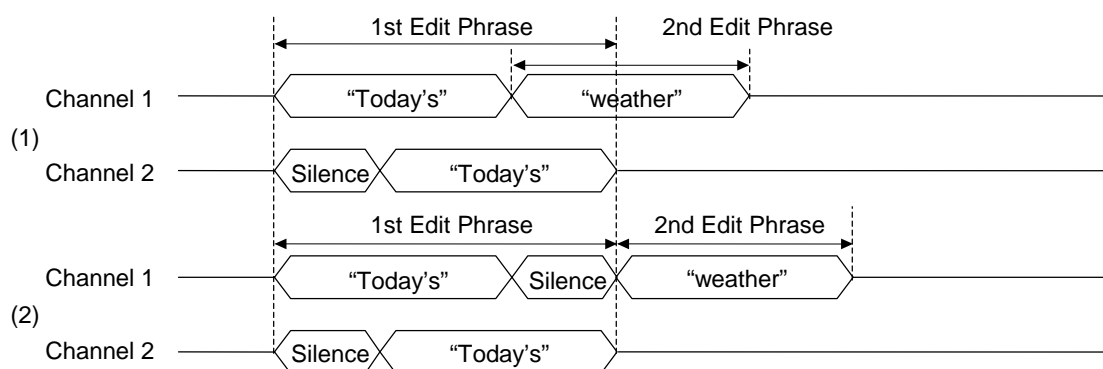

Figure 2 Example of Random Vocalization Timing
Random play requires the channel setting for the 1st and 2nd phrase control address to be the same. Random play cannot be used during channel 2 play or echo play without the use of the silence insertion technique shown in figure 10 item (2). Figure 2 item (1) shows the overlapping of the 2nd phrase control address in channel 1 with the echo playback of channel 2. Item (2) shows how silence is inserted after the 1st phrase control address in channel 1 to avoid overlapping of the 2nd phrase control address with channel 2 playback.